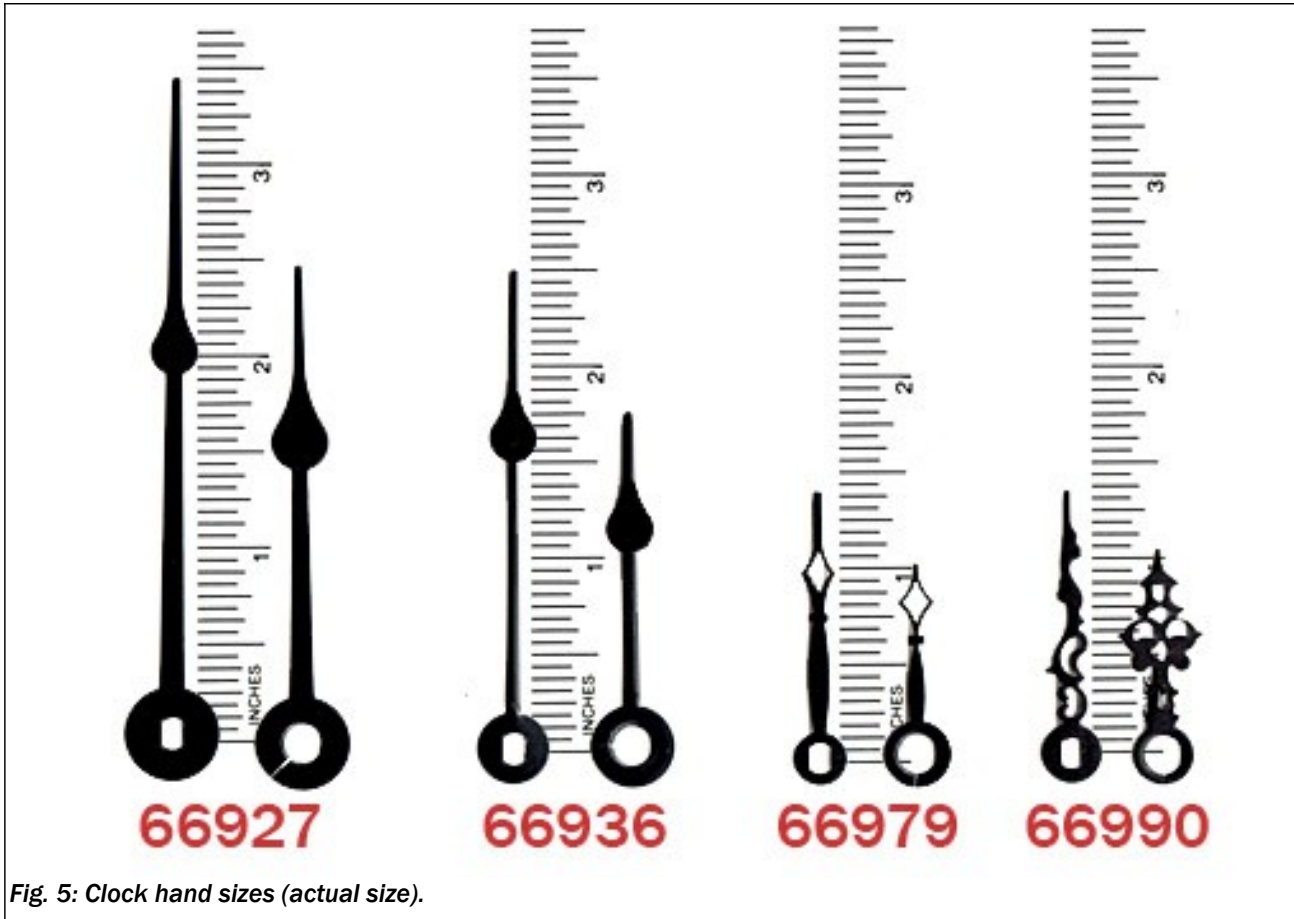

Fig. 5: Clock hand sizes (actual size).
Each Q80 movement comes with one minute hand and one matching hour hand at no extra charge. Klockit offers a wide range of styles and lengths, and I offer the four shown in Fig. 5. These hands will print actual size if you turn off all scaling, such as "fit to page" or "fit to margins" in your PDF reader's Print dialog.
- ◆ They fit the Quartex Q80 movement. Hands on many inexpensive clocks attach to the movement's shafts differently, and can't be used on a Q80 movement. The Klockit minute hand's hole has two flat sides (see Fig. 5) to fit the flatted shaft on the Q80 movement.